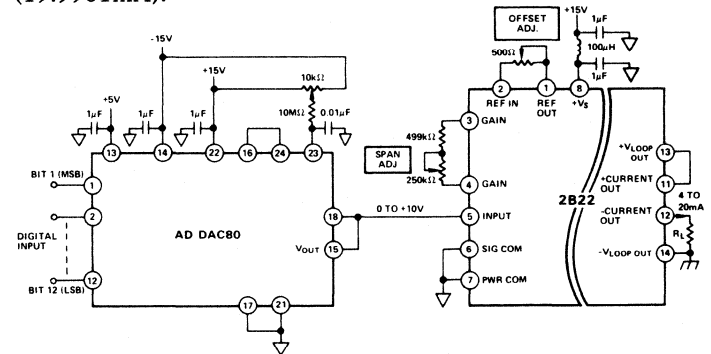

Figure 8. D/A Converter - Isolated 4 to 20mA Interface
**Isolated D/A Converter:** Model 2B22 offers total ground isolation and protection from high voltage transients in interfacing D/A converters to standard 4 to 20mA current loops. This requirement is common in a microcomputer-based control system. The voltage necessary to power the current loop can be derived from the same +15V supply that is used to power the D/A converter. The D/A converter, such as the 12-bit AD DAC80, should be connected for operation on the unipolar 0 to +10V output range. This is shown in Figure 8. After the load resistor connection has been made, the current loop can be calibrated using the offset and span adjustment potentiometers associated with the 2B22. First, a digital input code of all zeros is loaded into the D/A, and the offset adjustment potentiometer is adjusted for a current output of exactly 4mA. Then, a digital code of all one's is loaded into the D/A, and the span adjustment potentiometer is adjusted for a voltage across the load that corresponds to a current of 20mA less 1LSB (19.9961mA).